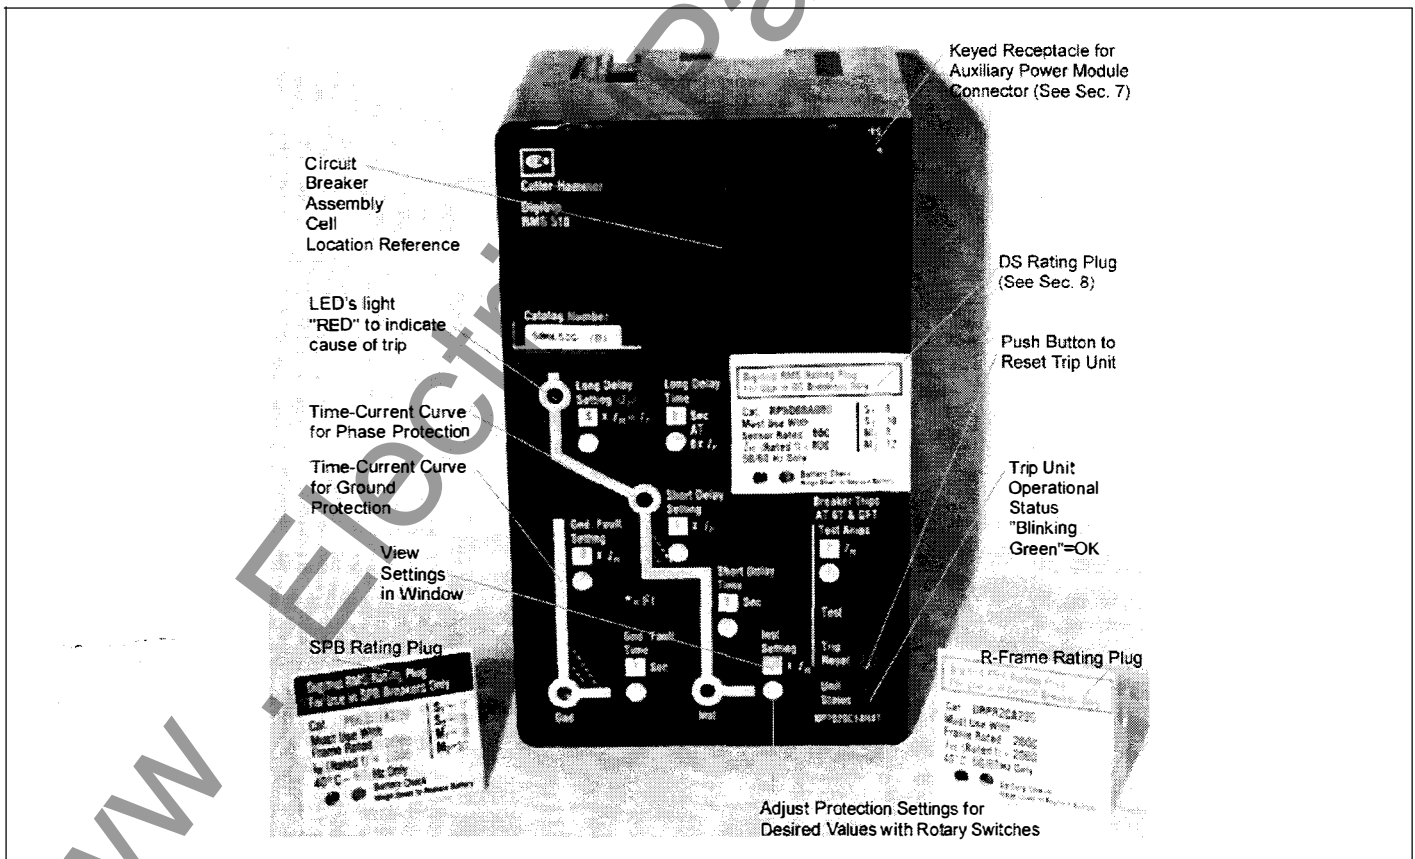
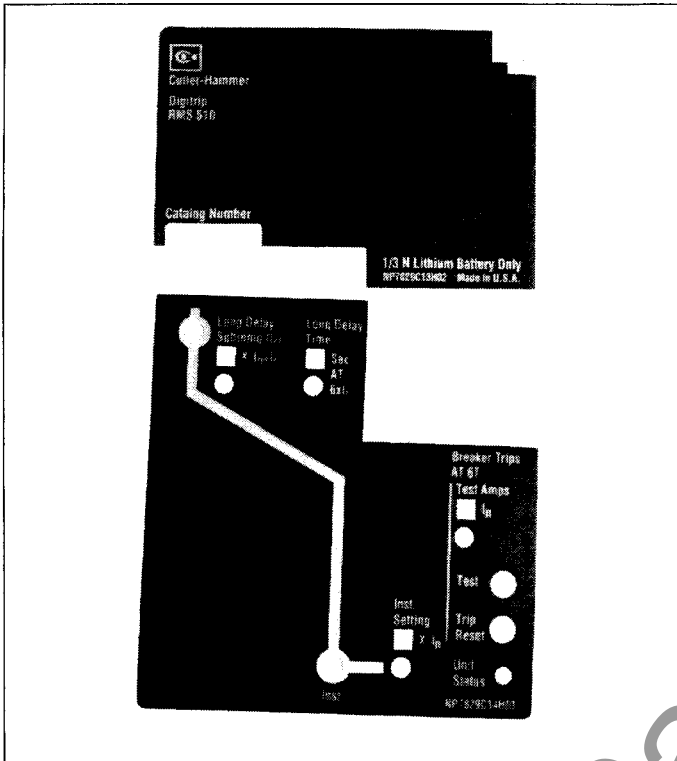
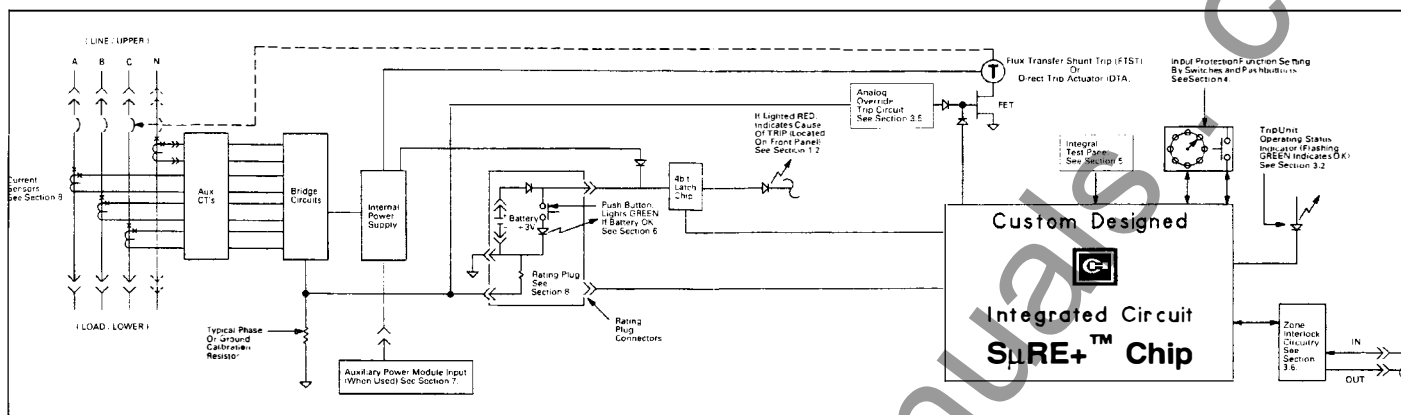
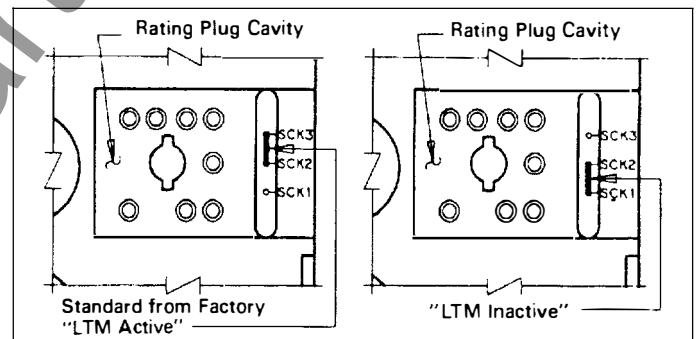

Fig. 1 Digitrip RMS 510 Trip Unit Model LSIG with Rating Plug
Fig. 2.1 Long Time/Instantaneous Protection (LI)
Fig. 3 Digitrip RMS 510 Block Diagram with Breaker Interface
Fig. 4.2.1 Long Time Memory "LTM" Jumper
The Digitrip RMS 510, illustrated in Fig. 1, is a custom application specific integrated circuit based trip unit suitable for use in types DS and DSL low voltage AC power circuit breakers and type SPB Systems Pow-R circuit breakers and Series C[®] R-Frame molded case circuit breakers.
The Digitrip RMS 510 Trip Unit is available in six different types. Each trip unit may be equipped with a maximum of five phase and two ground (time-current) adjustments to meet specific application requirements. The types of protection available for each model include the following, which are illustrated in Figures 2.1 through 2.6:
The Digitrip RMS 510 Trip unit provides three basic functions: Protection, Information and Testing. A typical trip unit and rating plug are illustrated in Fig. 1. Individual product instruction leaflets referenced in Section 9.0 illustrate typical Digitrip RMS Trip Units installed in specific breakers.
The trip unit employs the Cutler-Hammer Inc. custom designed integrated circuit S_μRE + chip, which includes a microcomputer to perform its numeric and logic functions. The principle of operation is described by the block diagram shown in Fig. 3.
The LEDs, shown in Figs. 1 and 2.1-2.6, on the face of the trip unit, light "RED" to indicate the reason for any automatic trip operation. As indicated in Figs. 2.1-2.6, each LED is strategically located in the related segment of the time-current curve depicted on the face of the trip unit. The reason for trip is identified by the segment of the time-current curve where the LED is lighted "RED". Following an automatic trip operation, the back-up battery, continues to supply power to the LEDs as indicated in Figs. 3 and 6. To check the status of the battery, see Section 6.
Push the "Trip Reset" button shown in Fig. 1, to turn "Off" the LEDs following a trip operation.
A green colored LED, as shown in Fig. 1, indicates the operational status of the trip unit. Once the load current through the circuit breaker exceeds approximately 10% of the frame/current sensor rating, the green LED will flash "On" and "Off" once each second, to indicate the trip unit is energized and operating properly.
Zone Selective Interlocking (or Zone Interlocking) is available (see Fig. 3) for Digitrip RMS Trip Units having Short Delay and/or Ground Fault protection. Zone Selective Interlocking provides the fastest possible tripping for faults within the breaker’s zone of protection, and yet also provides positive coordination among all breakers in the system (mains, ties, feeders and downstream breakers) to limit the outage to the affected part of the system only. When Zone Interlocking is enabled, a fault within the breaker’s zone of protection will cause the RMS DIG-ITRIP trip unit to:
Prior to placing circuit breaker in operation, each trip unit protection setting must be set to the values specified by the engineer responsible for the installation. The number of settings that must be made is determined by the protector model supplied as illustrated in Figs. 2.1 through 2.6. Each setting is made with a rotary switch, using a small screwdriver. The selected setting for each adjustment appears in its respective rectangular viewing window as illustrated in Fig. 1.
In certain applications it may be desirable to disable the LTM function. The LTM function can be disabled by (first opening the breaker and then) removing the Rating Plug (See Figures 1 and 6), and lastly moving the LTM jumper (inside the rating plug cavity, See figure 4.2.1) to its "INACTIVE" connection. (You can enable the LTM function again any time you wish by moving the LTM jumper back to its original "ACTIVE" connection.)
- 2) There is a condition under which the Long Delay Trip LED can erroneously indicate a LDT has occurred, even though the breaker is still closed. This can happen when an overload current momentarily exceeds the Long Delay Current Setting, I_r , so that the Long Delay LED flashes "RED" to indicate the overload condition. Then if, at the very moment when the LED is "ON", the load current would then suddenly drop to a value less than 10% of the breaker frame (or current sensor) rating, the trip unit stops functioning while the "4bit Latch Chip" (See Fig. 3) is set and the LED remains Lighted. If the current would again increase to a value above the Long Delay Current Setting, I_r , and then return to normal, the
LDT will reset itself. You can of course, manually clear the LDT (or any other trip indication) at any time, by pushing the "PUSH to RESET" button. (See Figure 1.)